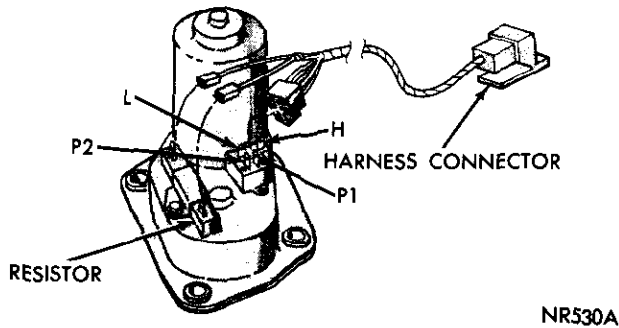

Fig. 3—Two Speed Motor
(1) Disconnect motor leads at motor. Connect jumper from battery positive terminal to motor terminal "H" (Fig. 3). Motor should run at high speed. (The ground circuit is completed through the car body.) Remove jumper.
(2) Connect jumper from battery positive terminal to resistor terminal. Connect second jumper from terminal "L" to the second resistor terminal. The motor should run at low speed. Remove jumpers.
(3) Connect jumper from battery positive terminal to motor terminal "P1". Connect a second jumper from motor terminal "P2" to terminal "L". The motor should park. If the wiper blades are near the bottom of the glass, the motor may be parked. Run the motor as in step (2) until the blades are high on the glass. Then repeat step (3) to observe parking.